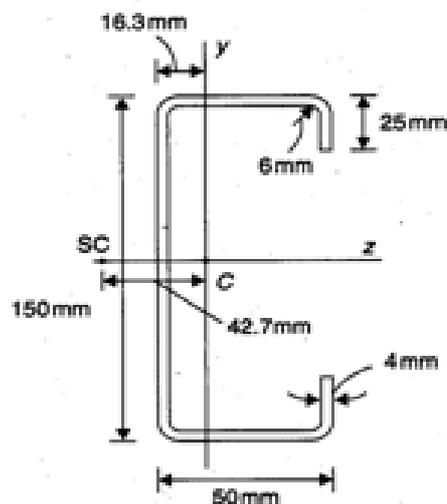

Figure.2
27. Determine the safe axial load carrying capacity in compression of the light gauge channel (C) section shown in Figure.2. The effective length of the member is 3m. Yield strength of steel $f_y = 240 \text{ N/mm}^2$. CO6 [K₃]